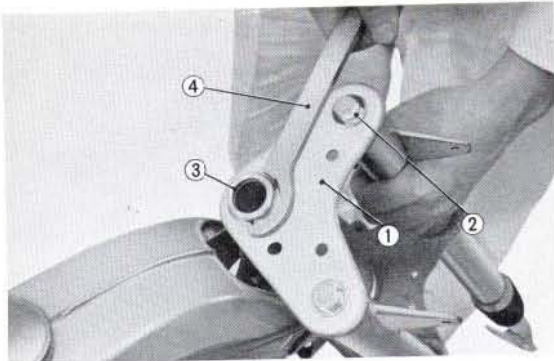

Fig. 4.15 ① Fork top bridge ③ Steering stem nut
5. Unscrew the two 10mm front fork bolts and steering stem nut, and then, remove the fork top bridge. (Fig. 4.15)